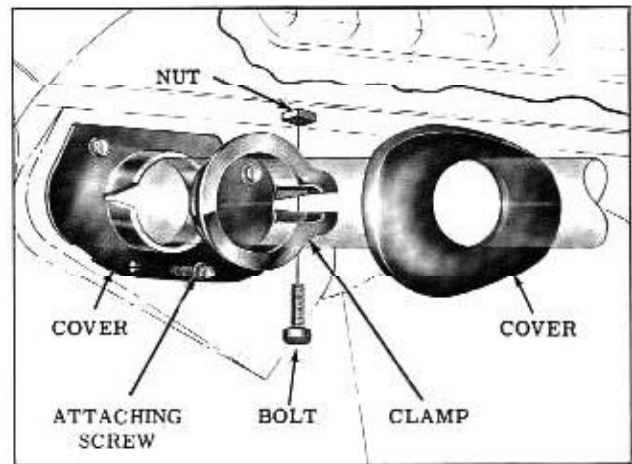

Fig. 4-14 Lower Column Attachment
4. Remove cover to floor pan attaching screws (Fig. 4-14)